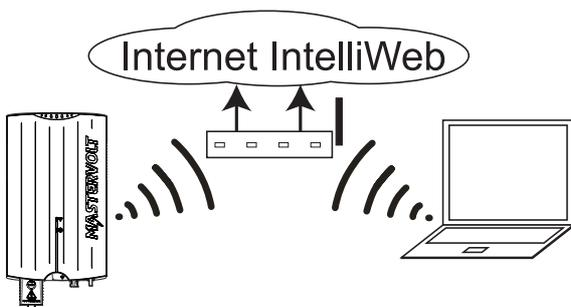

Figure 6-4:
5. Refer to Fig. 6-4. Option A & B only - The Soladin will now: